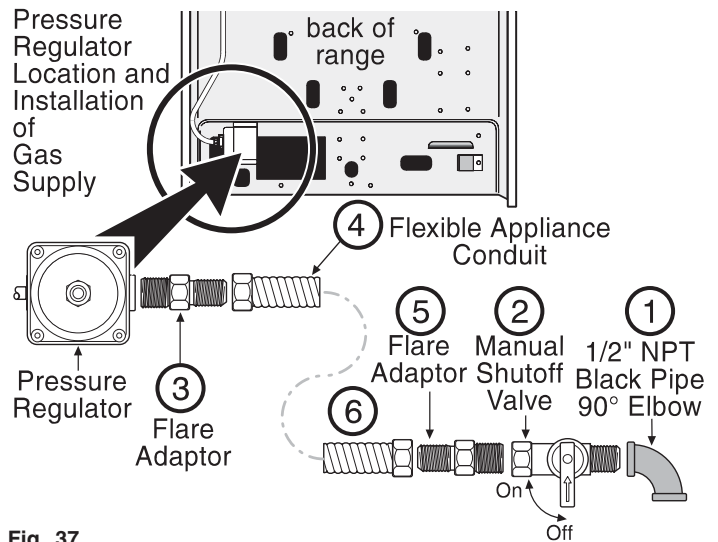

Fig. 37
This range is pre-set to operate on 4" natural gas manifold pressure. **The Pressure Regulator** is connected to the manifold and **MUST** be connected in series with the gas supply line (**Refer to Fig. 37**).
E Connect the range to the gas supply (refer to Fig. 37).
Before connecting gas supply to range, **review the suggested power source location drawings** (Figs. 1, 3 & 4). To prevent leaks apply pipe joint sealant on all male (outside) pipe threading. The Pressure Regulator can be found mounted to the lower left rear of range (See Fig 37). To install the gas supply:
- 6.) Attach flexible Appliance Conduit to Flare Adapter on Shut-Off Valve (Fig. 37).